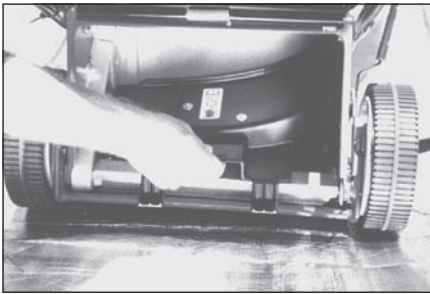

Figure 2 - Installing the Mulch Plug - 50m, 51m, 60m, 61m, & 80m
2.3 Installing the Mulch Plug for Models 50m, 51m, 60m, 61m & 80m (Figure 2):
2.5 Removing the Mulch Plug for Models 50m, 51m, 60m, 61m & 80m (Figure 2):